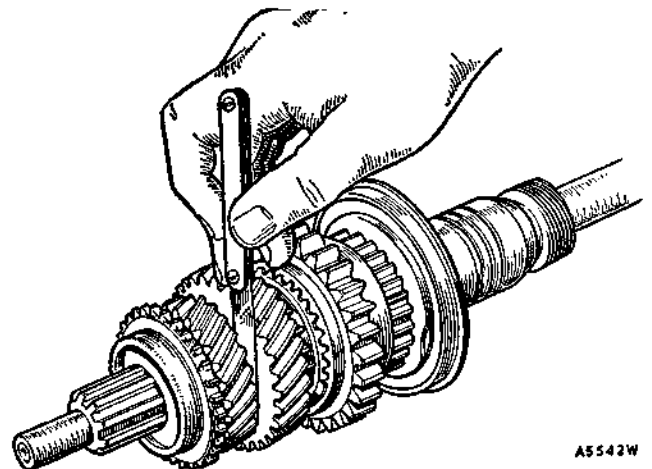

Fig. F.4
- Check the end-float of the second and third speed gear (see 'GENERAL DATA' and Fig. F.4).